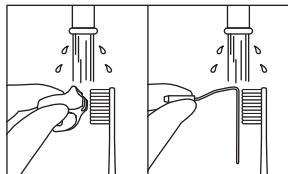

Fig. 18
- 3) Clean the external surfaces of the internal spray nozzle and nozzle holder with a soft bristled toothbrush for each 15 seconds or more. (Fig. 18)